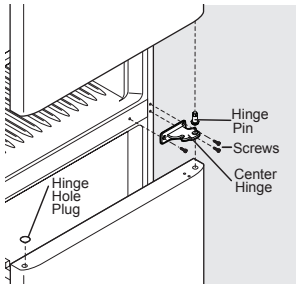

Figure 2
7. Remove the 3 center hinge screws using a Phillips screwdriver and set the center hinge aside (see Figure 2).